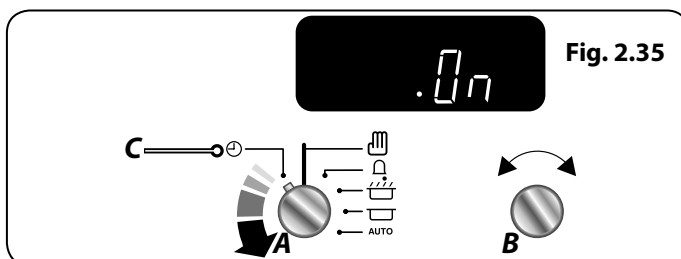

Fig. 2.35
2. Turn the **Timer (A)** knob to the **Clock (C)** setting and hold for approx 8 seconds. The display will show 'ON' (**Fig. 2.35**).